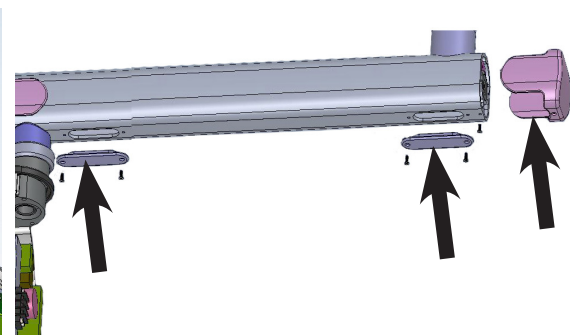

Figure 58
- Fix the end cap of straight arm by fixing M3x6 self tapping CSK screw at bottom side using screw driver and fix the two bottom caps of the straight arm by fixing M3x6 self tapping CSK screws (2 screws for each cap) using screw driver as shown in Figure 58 .